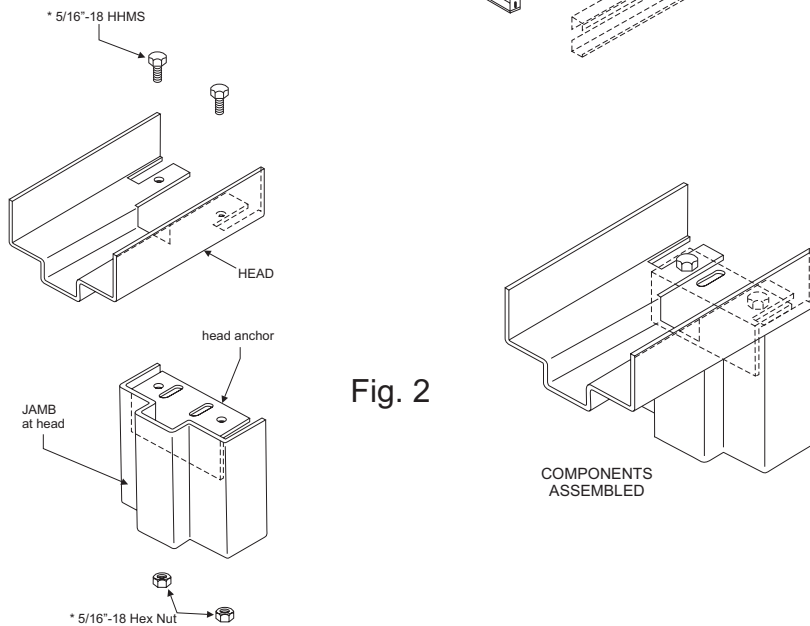

Fig. 2
**A** Determine hand and swing. Then place frame head and jambs on flat surface (floor) with door hardware preparation side up. RH/LHR shown -- place head at opposite end (dotted) for LH/RHR, see Fig. 1. Fasten head to jambs with nuts and bolts provided. Check door opening carefully when tightening fasteners to insure that proper door opening is maintained, e.g., 3'-0" door needs a 36" opening, see Fig. 2.